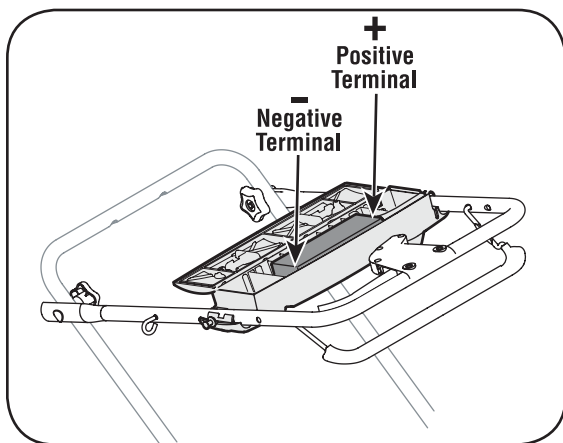

Figure 5-6
3. Open battery cover, remove positive and negative leads from battery, remove and replace with new battery. See Figure 5-6. Connect the positive lead to the positive side of the battery pack, then connect the negative side.
NOTE: The battery you have may differ slightly from the one shown in Figure 5-6. Refer to the Parts List.
IMPORTANT: When replacing battery pack in handle panel, battery pack must be positioned with the positive terminal to the left side and the negative terminal to the right side of panel (Positive terminal is closest to the key switch), Figure 5-6. Replacing battery pack incorrectly will cause serious damage.